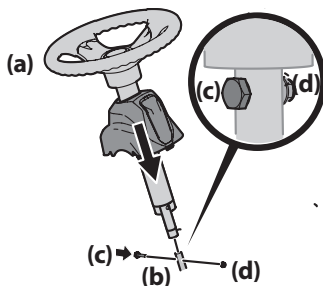

Figure 2
2. Remove the shoulder bolt (c) and lock nut (d) from the steering shaft and retain for later steps. See Figure 2.
4. Lower the steering wheel assembly (a) onto the lower steering shaft (b) and secure with the shoulder bolt (c) and lock nut (d) previously removed. See Figure 2.